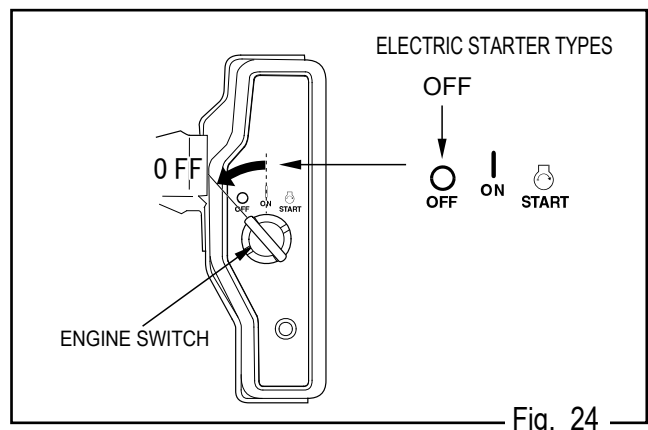

Fig. 24
- Turn the key switch to OFF position. (Fig.24)